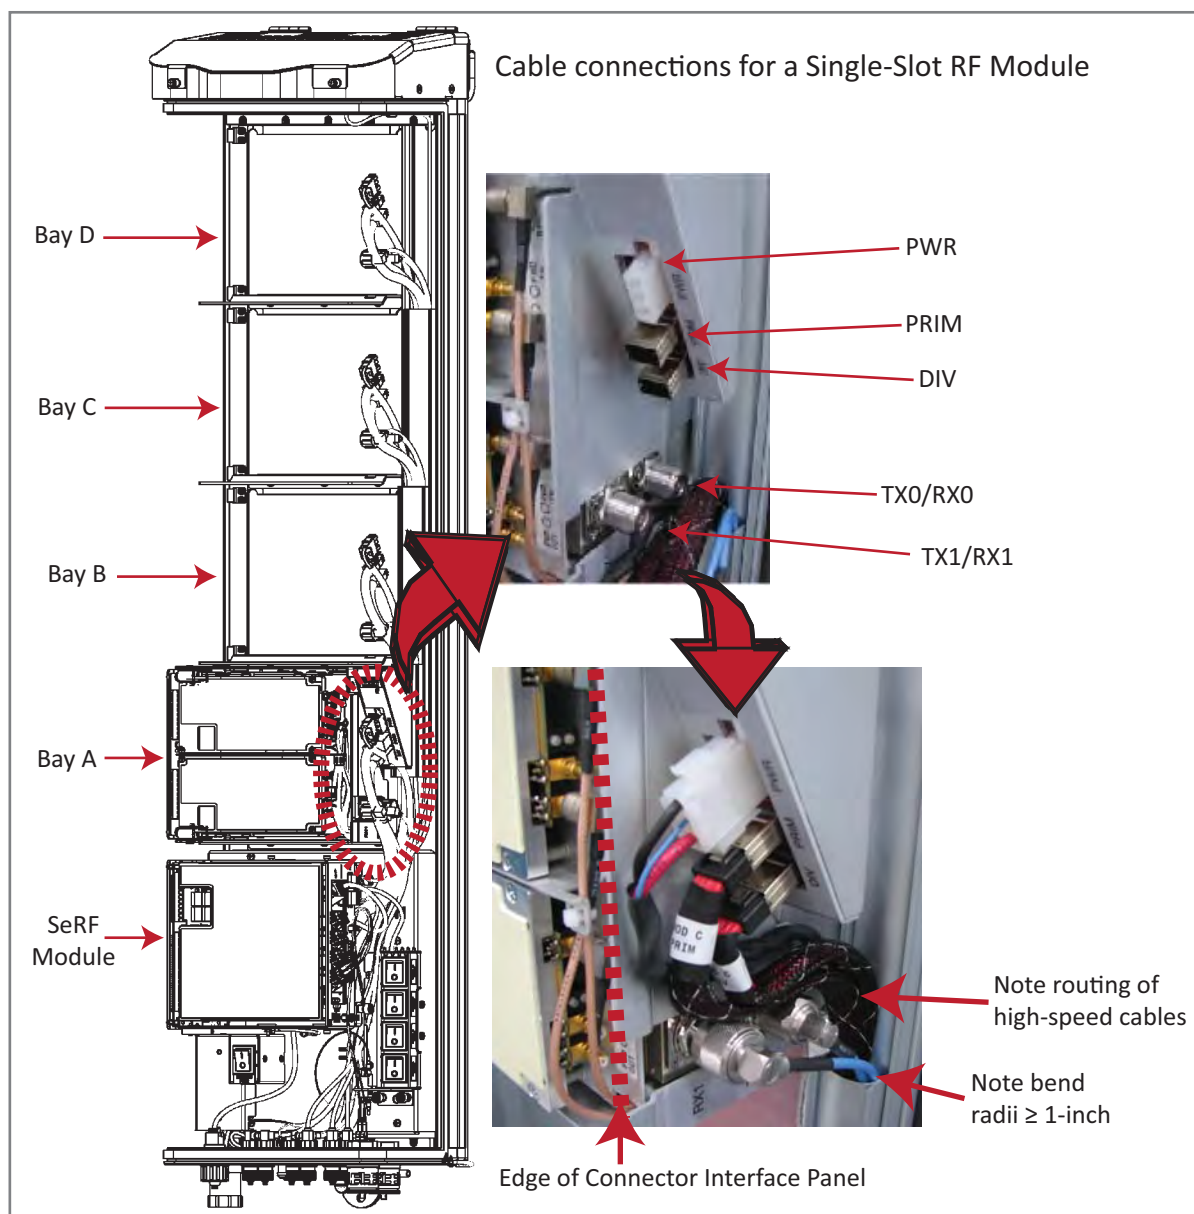
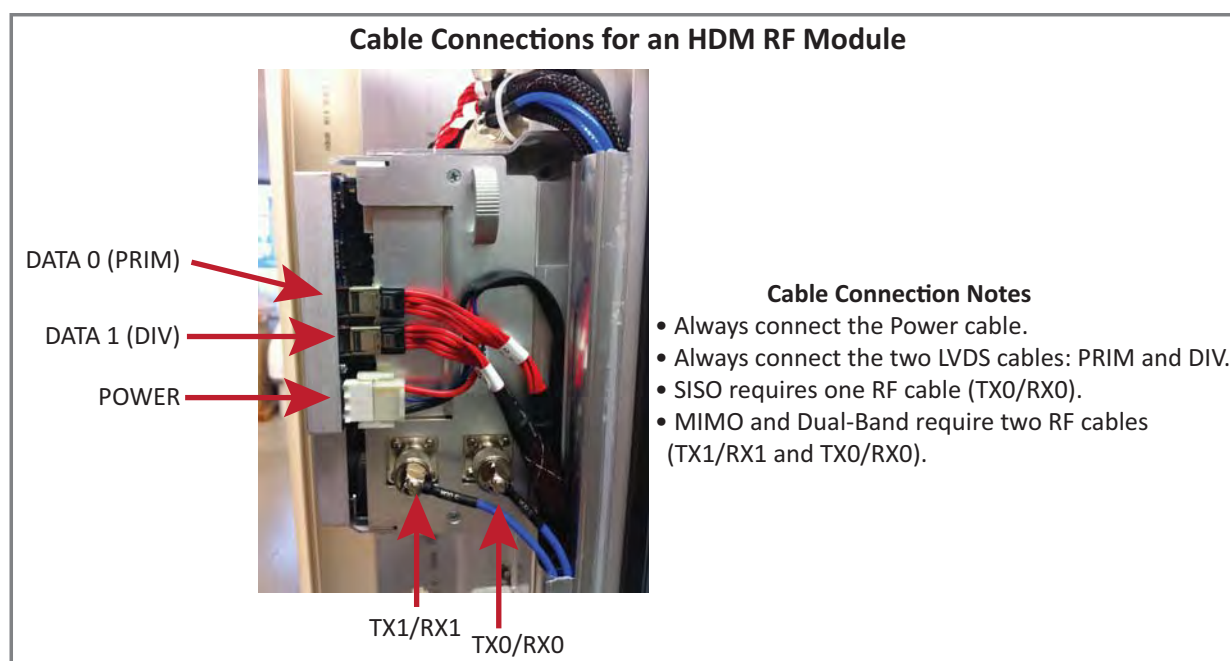

Figure 31. Cable Connections for Single-Bay RF Modules
Figure 32. Cable Connections for HDM RF Modules
- 3 Connect the RF Module cables, in the order shown below. As you work, refer to the graphic that corresponds to the RF Module being installed into a single bay of the PRU: for a Single-Bay RF Module, refer to Figure 31 on page 98, and for an HDM RF Module, refer to Figure 32 on page 99 and Table 24 on page 99.